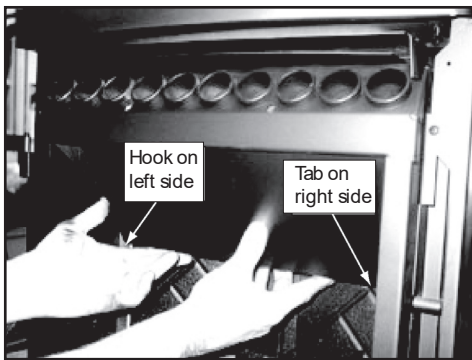

Figure 27.1
2. The top baffle has a hook on the bottom left side that rests on the top lip of the cast brick. There is a tab on the bottom right side that hooks into the side bracket. Remove the top baffle by first pulling the baffle forward until back edge drops down. Then slide baffle back until the front edge clears the shelf that it had been resting on (Figure 27.1).